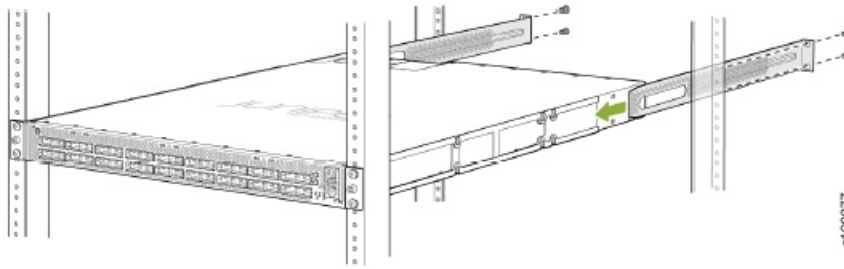

Figure 4: Slide Mounting Blades into Mounting Rail
8. Continue to support the PTX10001-36MR while sliding the rear mounting blades into the channel of the side mounting rails and securing the blades to the rack. Use four mounting screws (and cage nuts and washers if your rack requires them) to attach the blade to the rack. Tighten the screws. See Figure 4 on page 7.